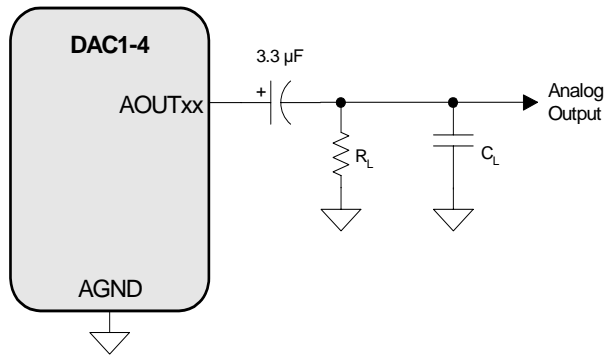

Figure 3. Output Test Circuit for Maximum Load
- Guaranteed by design. See Figure 3. R_L and C_L reflect the recommended minimum resistance and maximum capacitance required for the internal op-amp's stability and signal integrity. In this circuit topology, C_L will effectively move the dominant pole of the two-pole amp in the output stage. Increasing this value beyond the recommended 100 pF can cause the internal op-amp to become unstable. See "External Filters" on page 50 for a recommended output filter.